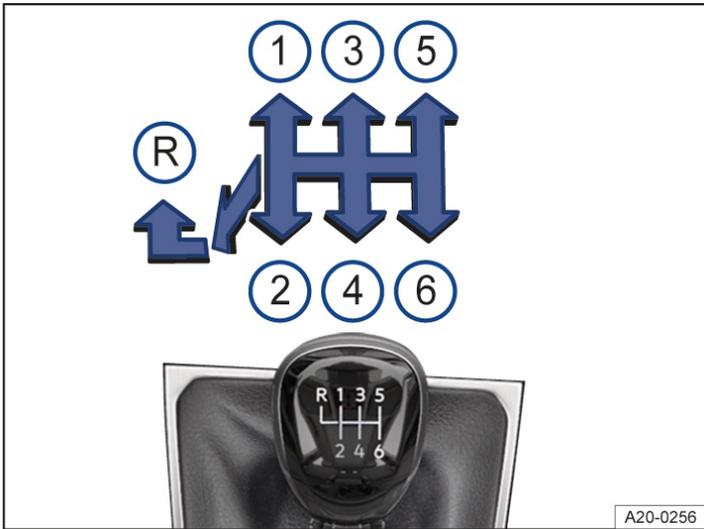

Fig. 1 Gear shift pattern of a 6-speed manual gearbox.
2. Move the gear lever to the required position *→ Fig. 1* ^①.
3. Push the gear lever fully to the left and then forwards into the reverse gear position *→ Fig. 1* [Ⓡ].